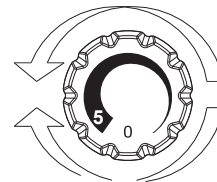

Fig. 2
- The temperature adjustment of both compartments is effected by rotating the thermostat knob (Fig. 2). Select the desired position: